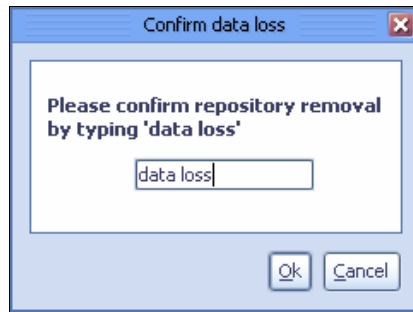

Figure 10-14 Delete repository data loss confirmation window
4. Click **Yes**. The Confirm data loss window opens (Figure 10-14).